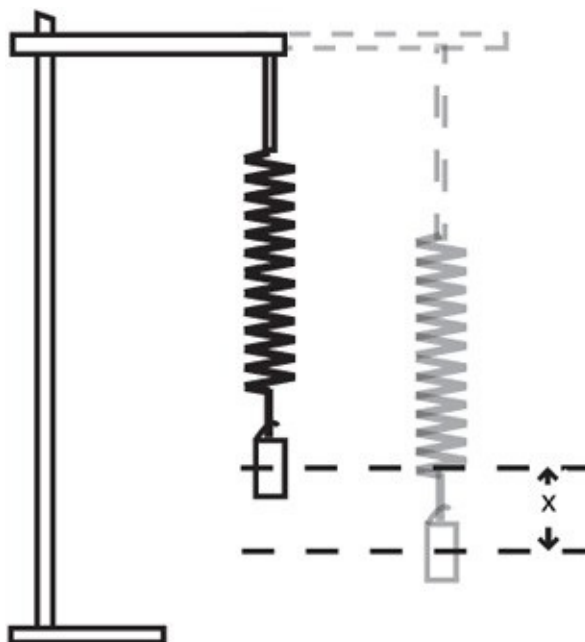

Figure 30-1 *Determining how stiff a spring is by measuring the spring constant.*
4. Measure the distance (in centimeters) the bottom of the spring is pulled below the equilibrium point. See Figure 30-1.